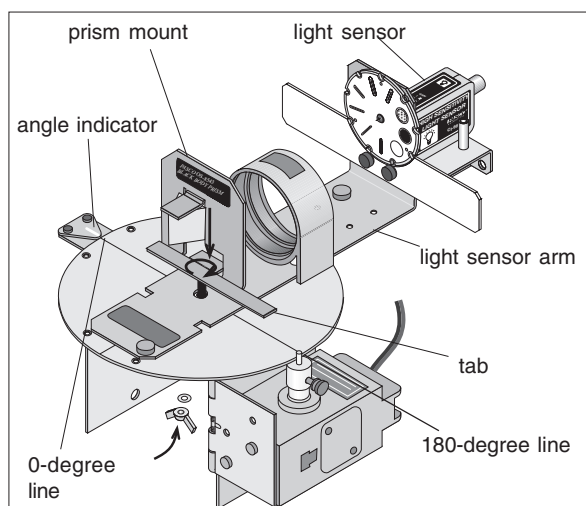

Figure 2: Attach the Prism Mount to the OS-8539 Educational Spectrophotometer
- b) Locate the hole in the center of degree plate resting over the spectrophotometer table. Insert the threaded post into the center hole and slowly turn the prism mount until the base of the mount piece is positioned loosely over the top of the degree plate (Figure 2).